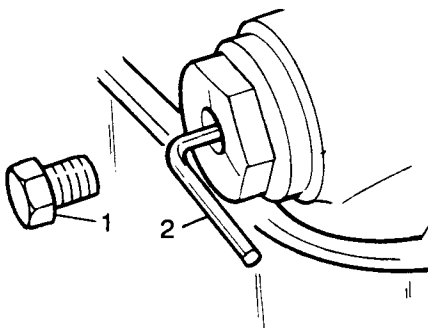

Fig B4.97
- (4) Refer to Fig B4.97. Retract the timing chain tensioner by removing the chain tensioner adaptor screw (1), fitting a 3,17 mm allen key (2) and turning key 90° clockwise. Remove the Allen key.